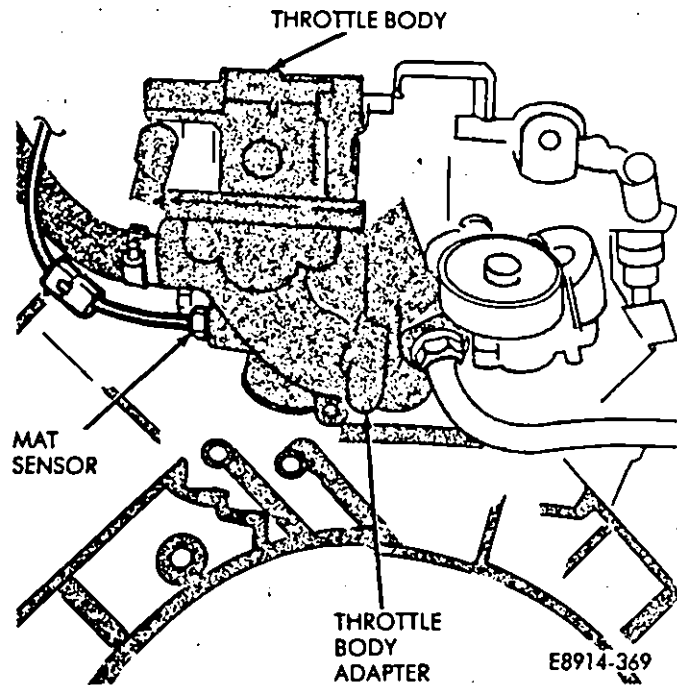

Fig. 6—MAT Sensor Removal/Installation
Manifold Air Temperature (MAT) sensor is located in the throttle body adaptor below the throttle body and behind the fitting for the Brake Vacuum Booster (Fig. 6).
- (1) Disconnect electrical connector (Fig. 6).
- (2) Unscrew MAT sensor from the adaptor (Fig. 6).
- (1) Install MAT sensor in throttle body adaptor (Fig. 6).
- (2) Tighten the MAT sensor to 28 N·m (21 ft-lbs) torque.
- (3) Connect MAT sensor electrical connector to wiring harness.